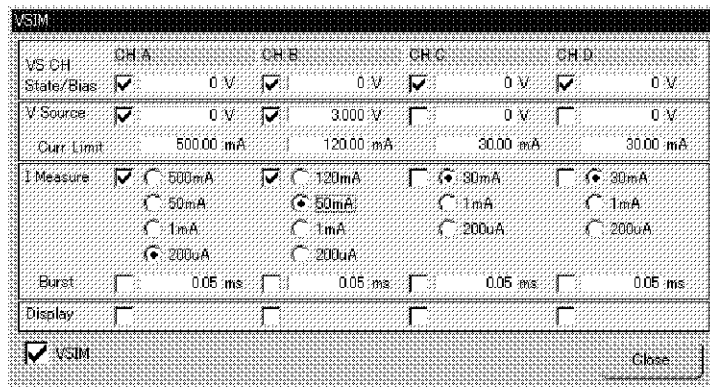

Figure 10-2 Sending the DCS
2. Set channels A and B as shown in Figure 10-2 according to the settings in Table 10-3.